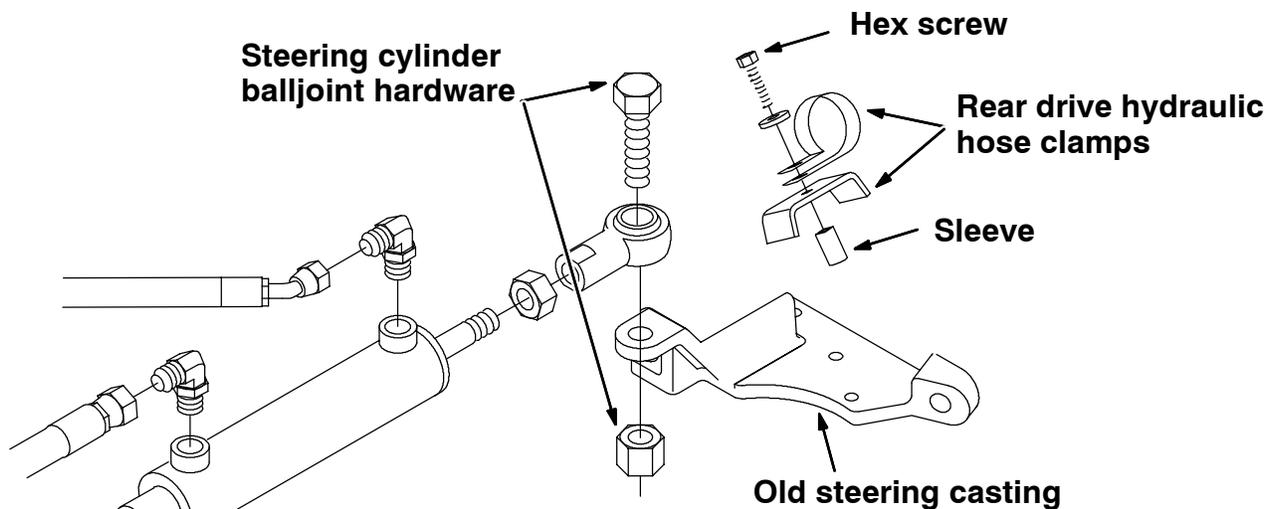

FIG. 3 - Steering Cylinder And Mount Casting
4. Turn steering wheel clockwise as far as it will go so the steering cylinder is completely retracted. (Refer to FIG. 3)
8. Remove the hose clamp, channel, sleeve and hardware from the old steering casting. (Refer to FIG. 3)
9. Remove the hex screw and nyloc nut holding the steering cylinder ball joint to the rear wheel support. (Refer to FIG. 3)